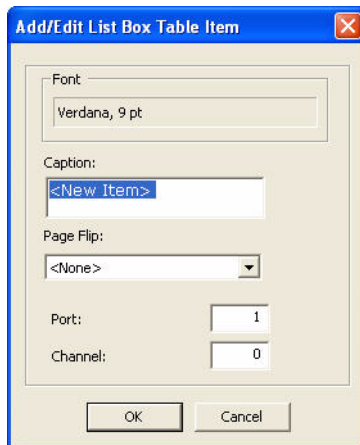

FIG. 38 Add/Edit List Box Table Items dialog
7. Click the **New** button to launch the *Add/Edit List Box Table Items* dialog (FIG. 38).